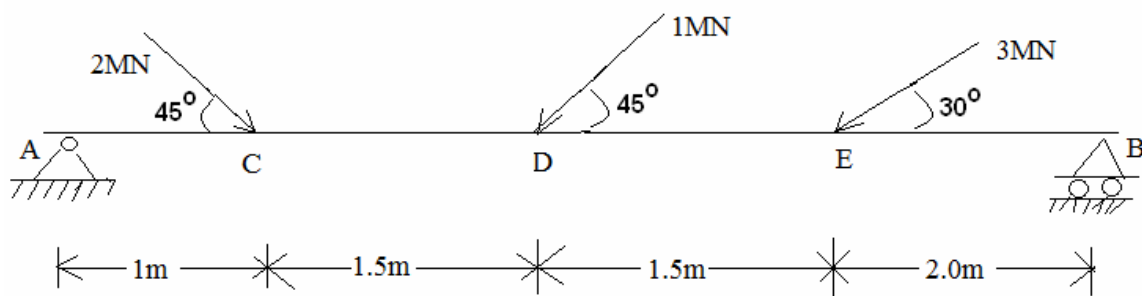

Fig.2
2. Analyse the beam shown in Fig.2. Draw S.F.D, B.M.D and Thrust Diagram. [15]